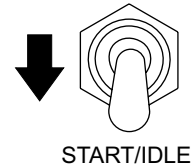

Figure 51. Engine Speed Control Switch Start Idle Position
2. Place the engine speed control switch (Figure 51) in the Start/Idle position (down).